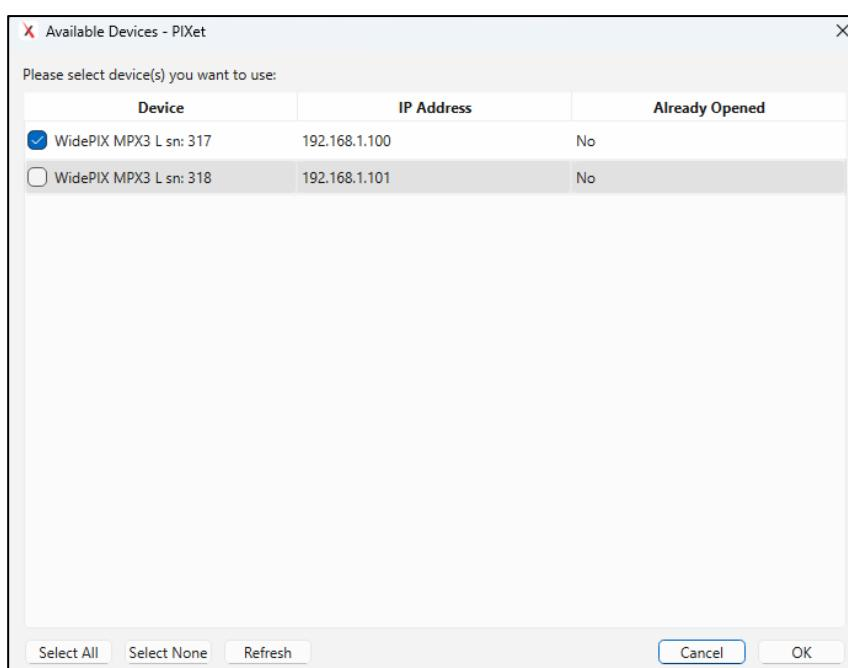

Figure 9: Available devices
2. Run **Pixet** application. A table with available devices will pop up, see Figure 9. Choose your device. If device has more column segments like **CHROMATIC 10** (Doble row) and higher, you need to choose all segments and click on OK.